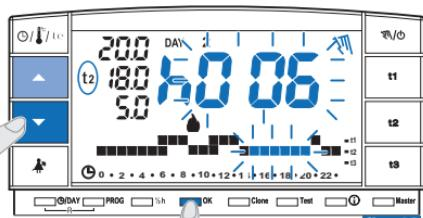

fig. 46
- Set the desired duration with keys **▲▼**, then press **OK** to confirm (example in fig. 46).